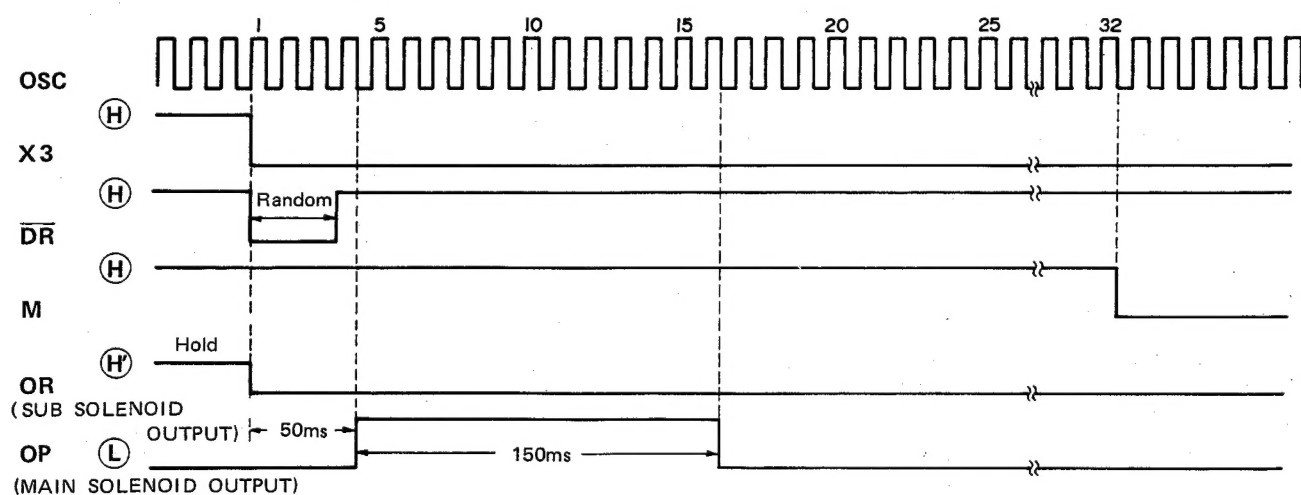

Fig. 5
5) Operation at tape end (Fig. 5)